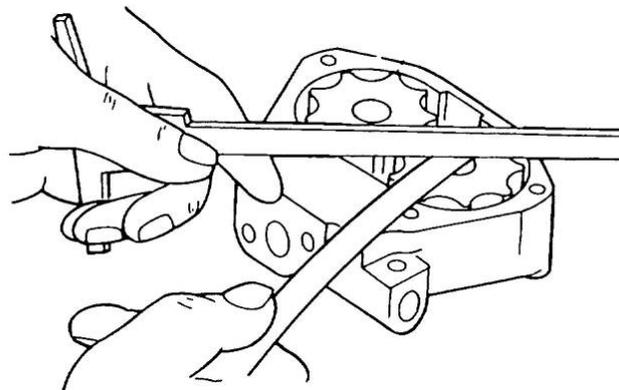

Figure 40 Checking the Gear to Body Clearance
- Install the drive gear and shaft and the driven gear into the pump cover. Hold the assembly in a soft jawed vice, using a feeler gauge and straight edge (Figure 40), check the clearance between the gears and the body. The clearance should be 0.050 to 0.114 mm (0.002 to 0.0045 in), if it is outside this limit replace the gear set.